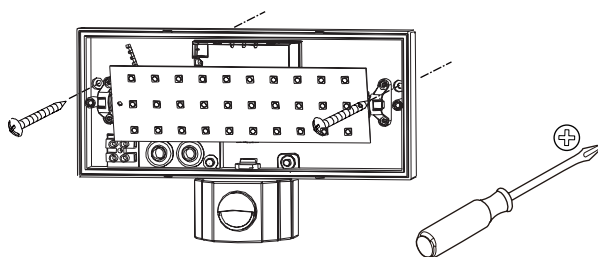

Fig.4a
- Step4 If it is a wooden wall, there is no need to use plastic expansion, just drive the screw with the screwdriver. (Fig.4a)